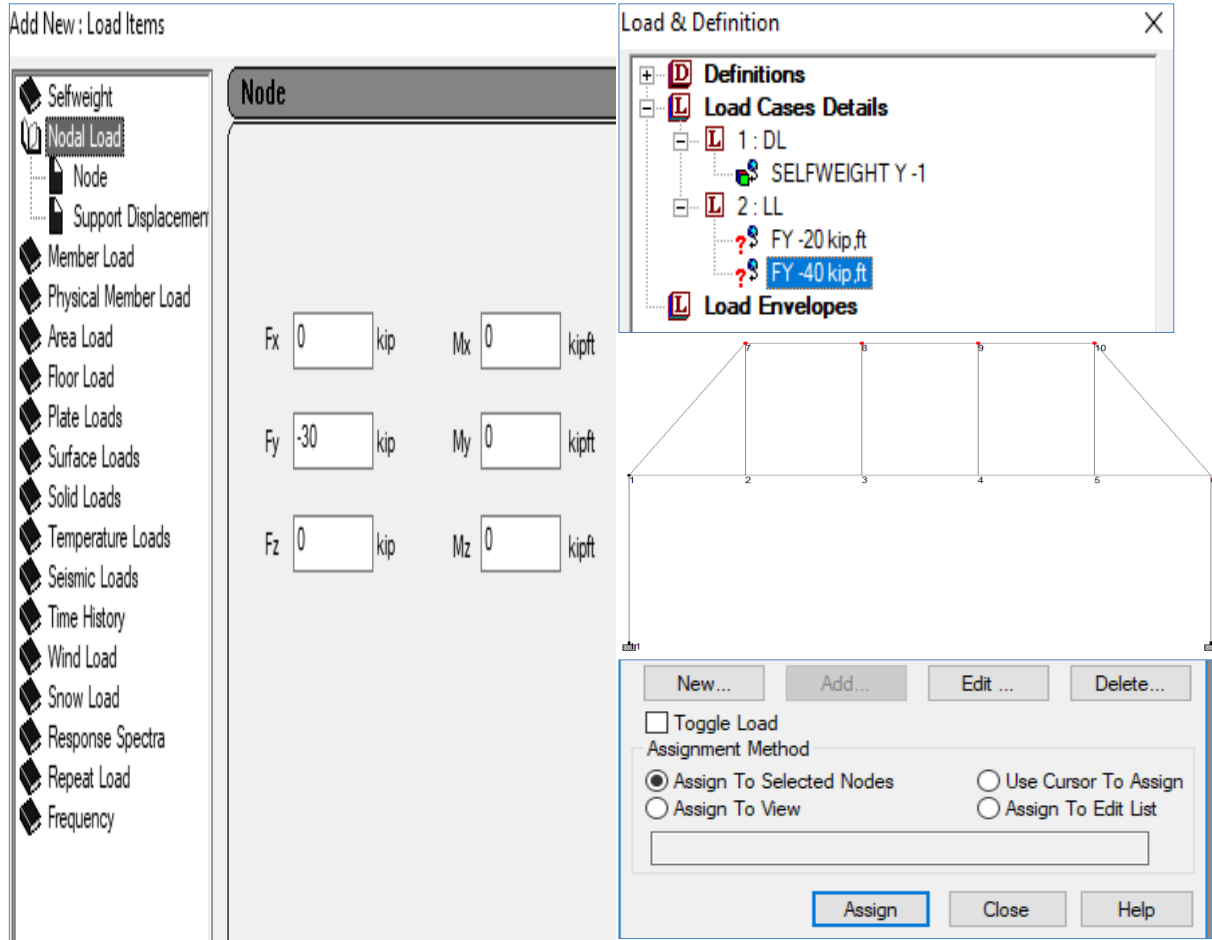

Fig: 4.27
- For Given loads: Again Live Load or LL → Add → Nodal Load → $F_y = -20$ kip → Add → $F_y = -40$ kip → Add → Close, then click on defined force and select the required Nodes → Assign to selected Nodes → Assign → Yes. (Fig: 4.27)